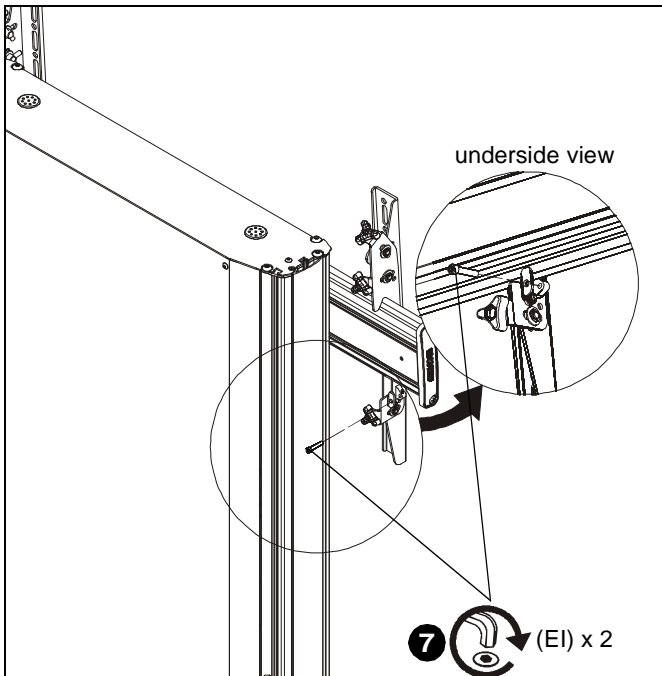

Figure 4
6. Hang interface brackets (A and B) to display rails. (See Figure 4)
7. Use 1/4-20 x 1 1/4" socket head cap screws (HI) to secure interface brackets (A and B) to rails for each display. Screws must engage through both holes to be fully secured. (See Figure 4)